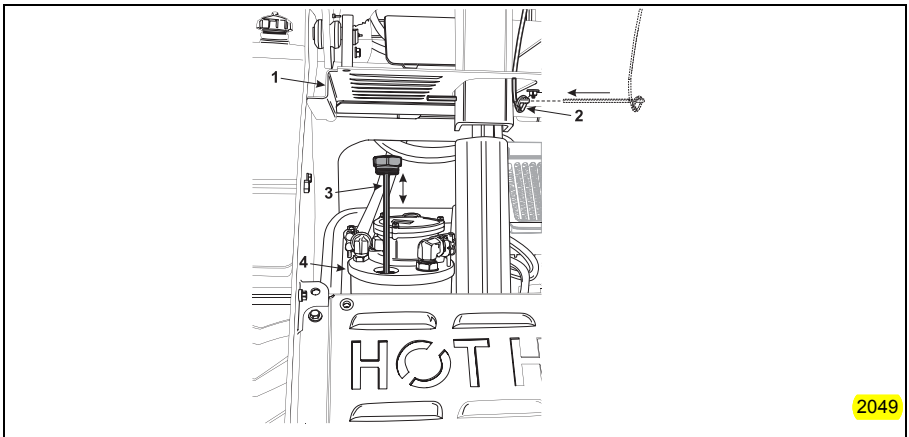

Figure 4-4 Hydraulic Fluid Level Dip Stick
- b. Raise cover (Item 1, Figure 4-4) and secure in the raised position using the safety support lock pin (Item 2, Figure 4-4).
- c. Locate the large hex nut (Item 3, Figure 4-4) on the filter housing assembly (4, Figure 4-4). Attached to this hex nut you will find the hydraulic level dip stick.
- d. Unscrew and remove the hydraulic fluid dip stick (Item 3, Figure 4-4). Make sure that the hydraulic fluid is at or slightly above the marker hole in the dip stick.